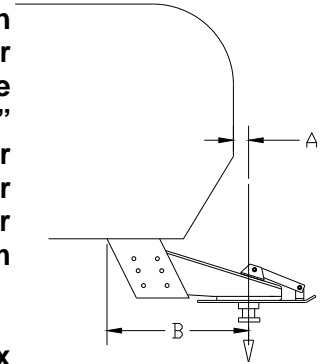
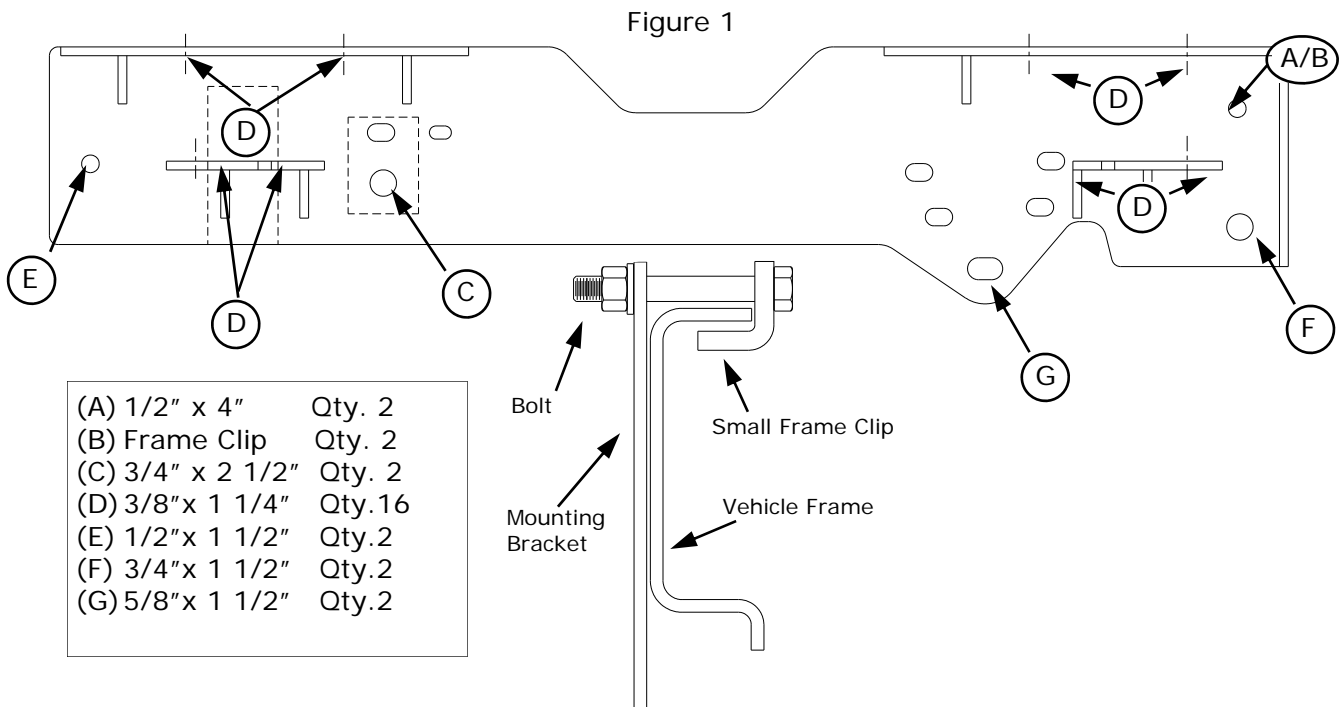

Figure 1
Figure 2
3. The trailer king-pin must be kept even with /or forward of the foremost point of the trailer. See "Caution" and "figure 1" on pg. 3.
4. Trucks with bed liners may need a tall Mounting Post. See "NOTE" under item 13 of "Drilling the Bed" on pg. 10 for detail.
5. Read these instructions completely and follow them accurately. Should you have any questions, please call the factory at (800) 443-2307 for installation assistance.
As a general rule, for the SuperGlide hitch to maintain proper clearance to the truck, the leading edge of the trailer (measured at the corner) should be even with the center of the king pin. (Figure 1). Most truck trailer combinations will allow 102" wide trailers if the king pin is located as described. Narrower trailers will allow the king pin to be "tucked" under the trailer over hang to some extent. Call PullRite technical support with trailer width, make and year of truck and distance the king pin is from leading edge of the trailer. 1-800-443-2307
Using a trailer that has a long rear slope to the King Pin Box Hangar, "B" in (Figure 1), may cause damage to the trailer or truck bed during turns. Dimension "B" must be less than one half the width of the inside top edges of the bed. Please call PullRite technical support, 1-800-443-2307, if more information concerning this problem is needed.
1. See figure 1 and parts list . The bolt holes and appropriate bolts are listed and labeled by letters.
2. Fasteners (F) will bolt to existing holes on the frame. Finger tighten only.
3. Install fastener (A) using a frame clip. See enlarged drawing in figure 2.
4. Install fastener (B) to existing frame hole. Tighten by hand.